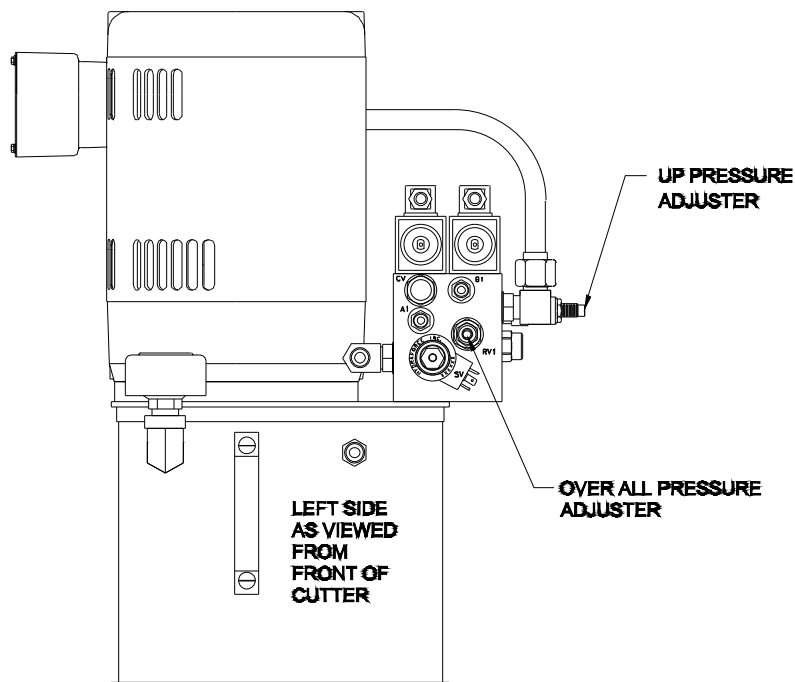

Fig 53
8. If the "Pressure Gauge" is not at 1800 psi, loosen "Over All Pressure Adjuster" locknut Fig. 53 with a 3/4" wrench. Use a 1/4" Allen wrench in the adjuster stem. Turn the Allen wrench clockwise to increase pressure.
14. Loosen the “Up Pressure Adjuster” locknut with a 3/4” wrench. Fig. 53. Using a 1/4” Allen wrench, turn the “Up Pressure Adjuster” clockwise to increase the pressure.